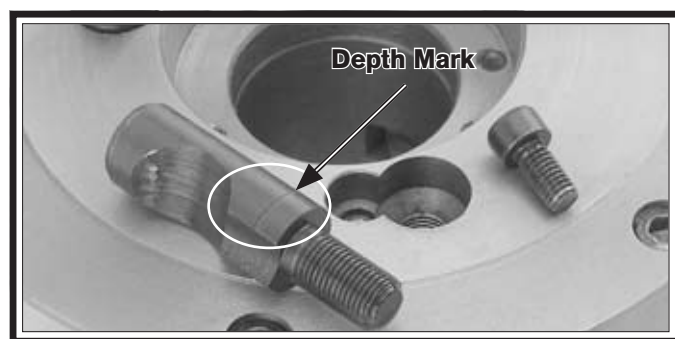
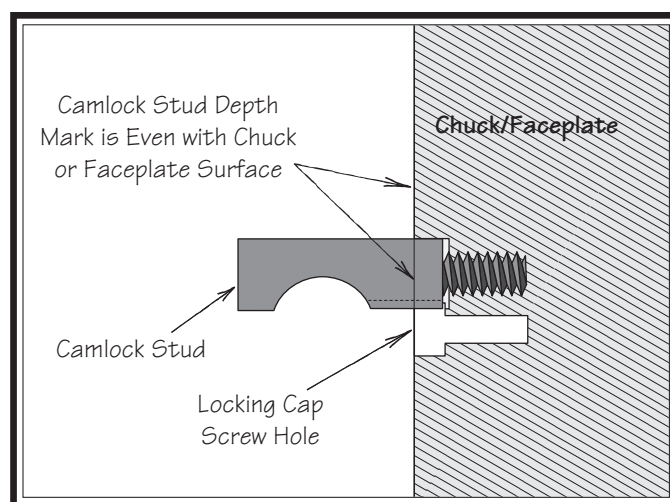

Figure 45. Example of camlock stud depth mark.
Figure 46. Initial adjustment of camlock stud.
3. Thread each cam-lock stud into the chuck or faceplate until the depth mark shown in **Figure 45** is even with the surface of the chuck or faceplate and the curved indent on the side of the stud faces the locking cap screw hole, as shown in **Figure 46**. This is an initial adjustment.